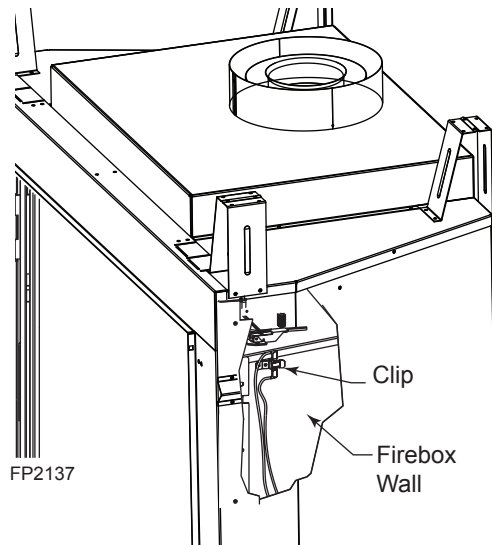

**Figure 33 -
8. Two screws are already mounted to each cover which would be utilized to mount the blower to the cover. Unfasten the two screws and mount the blower bracket assemblies. *Figure 33*